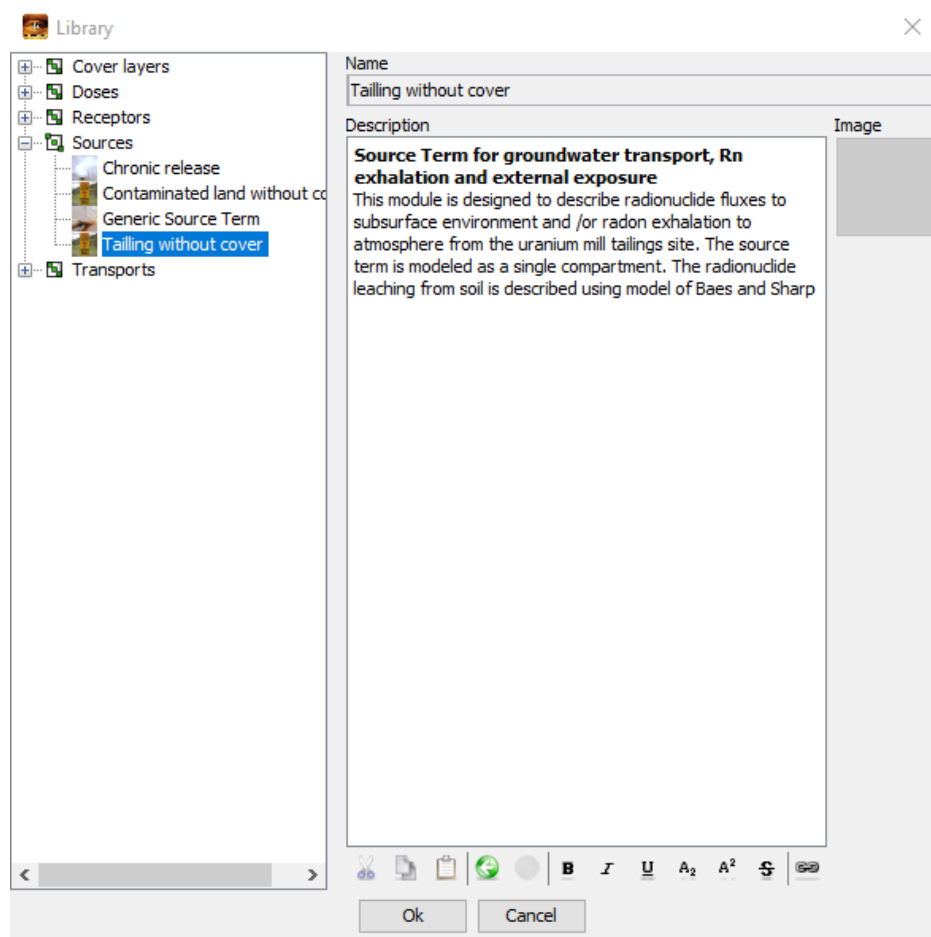

FIG 7. ‘*Library*’ window showing the explanatory text for the ‘*Tailings without cover*’ module from the ‘*Sources*’ library.
2. In the list of modules, select the ‘*Tailing without cover*’ module from the ‘*Sources*’ folder. You can read a short description of the selected model in the ‘*Description*’ field of ‘*Library*’ window (FIG 7).